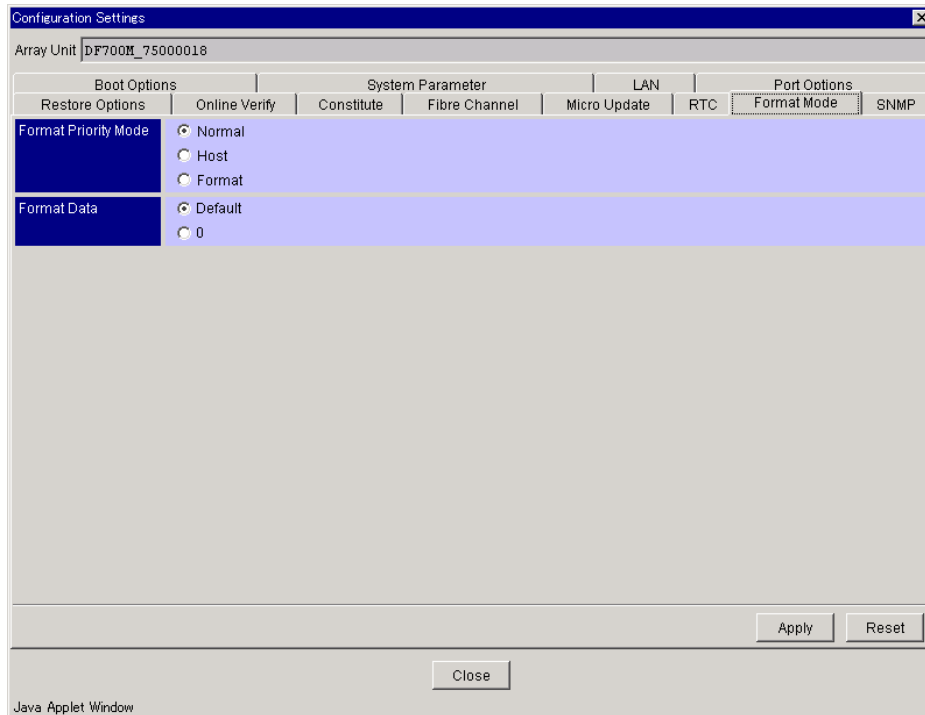

Figure 9.10 Configuration Settings - Format Mode
2. Click the **Format Mode** tab. See Figure 9.10.